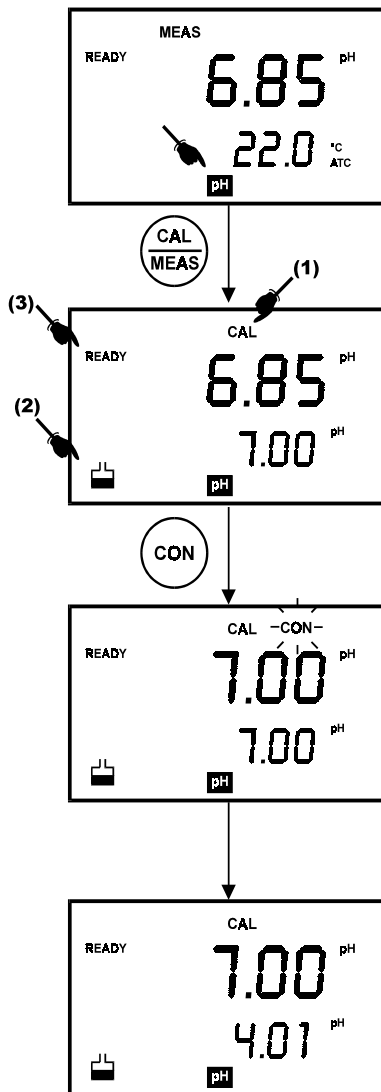

Figure 15: pH Calibration at pH 7.00
To activate the Automatic Temperature Compensation (ATC), simply plug in the temperature probe into the phono jack. The ATC indicator will be displayed on the LCD (Figure 15). If the ATC indicator is not displayed, it indicates that the temperature probe is either not properly connected to the instrument or is faulty.
3. Select the [pH] mode using the MODE key. (See Figure 15 on right).
7. The display will show the [CAL] mode and the buffer icon as shown (see [1] & [2] in Figure 15).
9. Wait for the measured pH value to stabilize. The READY annunciator will light up. See [3] in Figure 15.